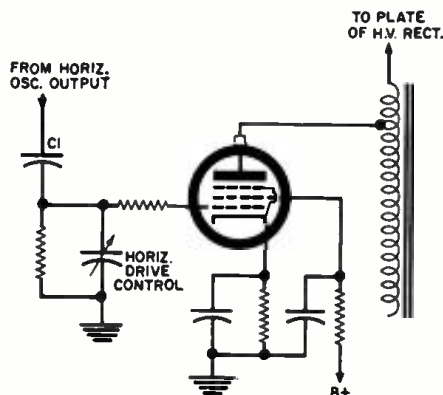

Fig. 3. A common procedure used in replacing  $C_1$  could cause later difficulty.
**QUESTION:** What harm, if any, is there in using a somewhat larger value of capacitance than called for in replacing the coupling capacitor between horizontal oscillator and horizontal output tube ( $C_1$ , Fig. 3).